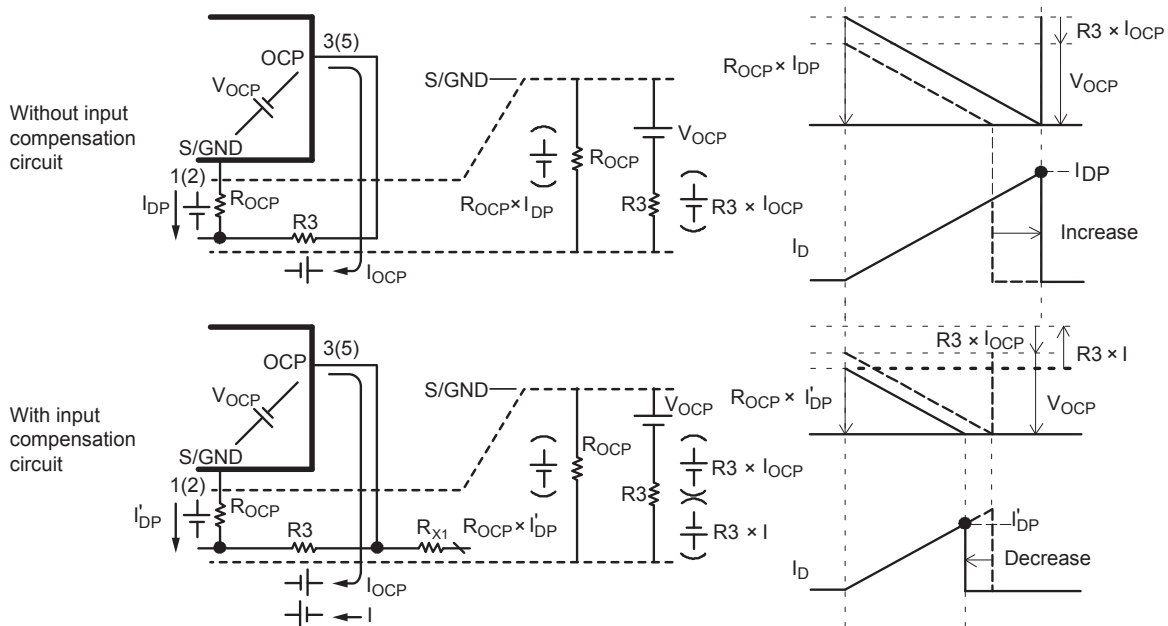

Figure 50. Compensated drain current waveforms
Without the input compensation circuit, as shown in the figure 50 upper panel, the overcurrent detecting voltage is equal to the sum of the Overcurrent Protection Threshold Voltage, $V_{OCP} = -0.60 \text{ V}$, and the voltage across R_3 from the OCP pin source current, $I_{OCP} = -40 \mu\text{A}$.
In the converse situation, with the input compensation circuit, as shown in the figure 50 lower panel, the overcurrent detecting voltage is equal to the sum of the Overcurrent Protection Threshold Voltage, $V_{OCP} = -0.60 \text{ V}$, the voltage across R_3 from the OCP pin source current, I_{OCP} , and the voltage across R_3 from the input Compensation Current, I :
1. The overcurrent detecting peak drain current, $I_{DP(OCP)}$, without the input compensation circuit, is expressed by the following, based on equation 6, from figure 50, upper panel:
2. On the other hand, the overcurrent detecting peak drain current, $I'_{DP(OCP)}$, with the input compensation circuit, is expressed by the following, based on equation 7, from figure 50, lower panel: